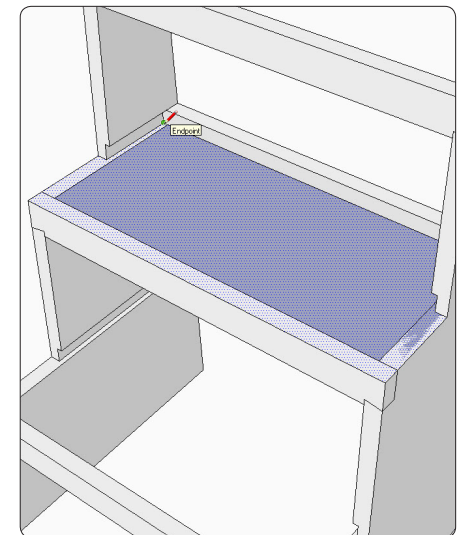

Figure 17. Draw the face of the middle step.
Step 13 Use the Line Tool to trace around the perimeter shape of the middle step. As shown in Figure 17, this face is roughly T-shaped, following the outside of the sides and the front stretcher, then jogging in at each side to run along the bottom of the dados and finally along the back stretcher. Make the step face a component.